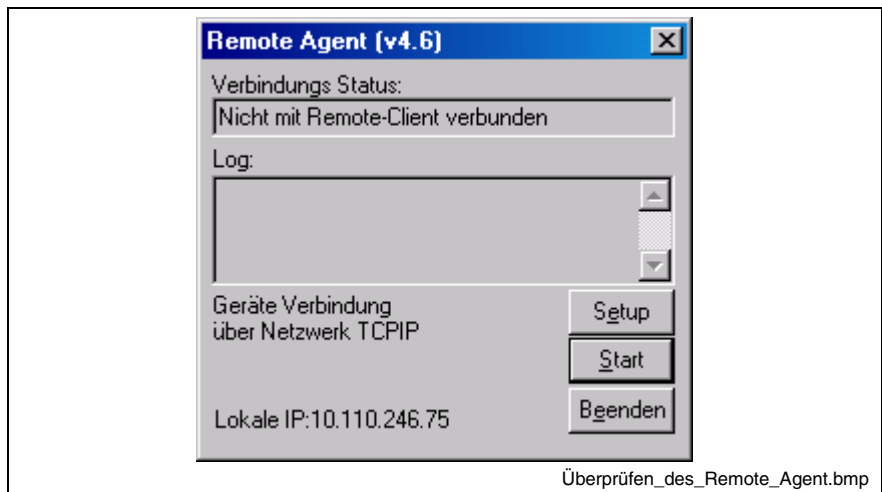

Fig. 7-1: Verifying the remote agent
- Fig. 7-1: Verifying the remote agent 7-1